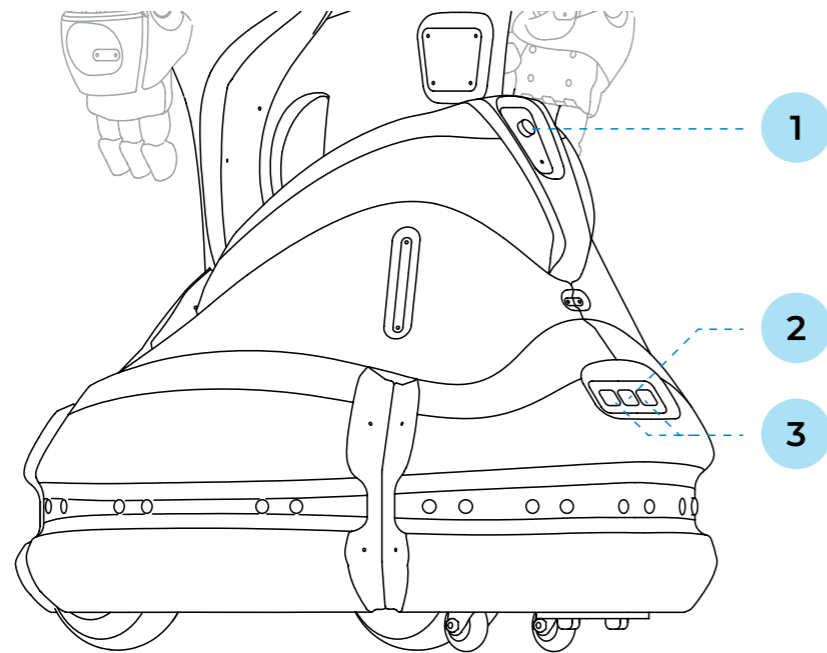

Fig.2.8. Promobot V.4. robot, main components of the movement platform (back view)
Safe autonomous movement is realized by obstacle detection sensors. If the robot is equipped with a lidar and a constructed map of the room, it can move to specified points on the map. The robot independently detects the charging station with the help of a special camera and is automatically directed to it when recharging is necessary. The composition of the movement platform is shown in Figures 2.8, 2.9 and 2.10.
2. The robot can be charged using the cable supplied with the robot. Connect the charging cable to the battery **charging port** shown in Figure 2.8. For more information on how to charge the robot, please refer to section 5.4 of this guide.